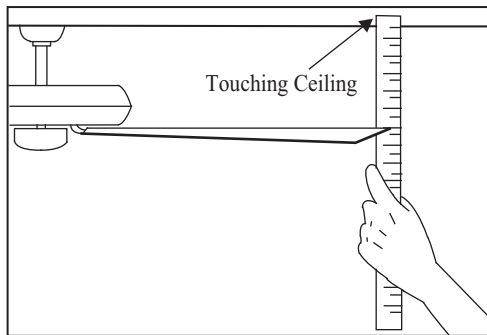

Figure 18
2. Most fan wobble problems are caused when blade levels are unequal. Check this level by selecting a point on the ceiling above the tip of one of the blades. Measure from a point on the center of each blade to the point on the ceiling. Measure this distance as shown in Figure 18. Rotate the fan until the next blade is positioned for measurement. Repeat for each blade. Measurements deviation should be within $1/8''$. Run the fan for 10 Minutes.